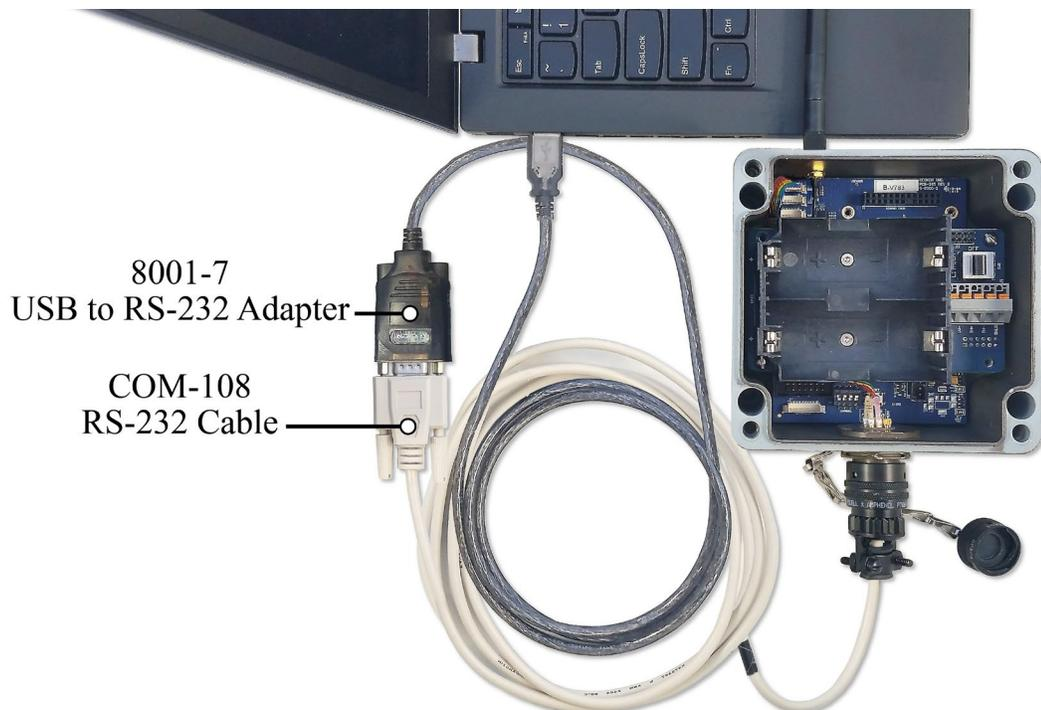

Figure 24 - Cable Connection
- c. Connect the *8001-7* to the PC. Figure 24 shows the completed connection.